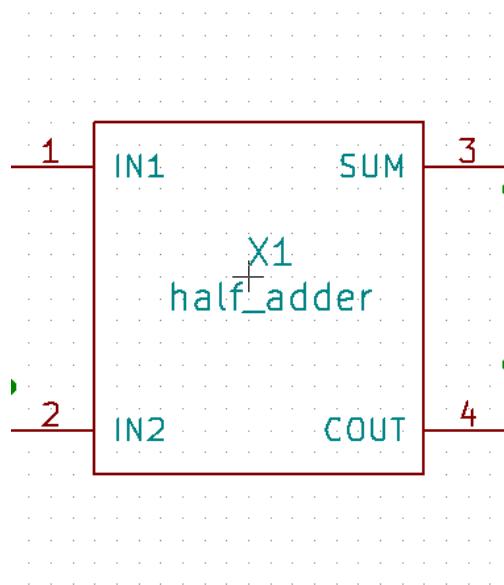

Figure 8.8: Half-Adder Subcircuit Block
- Update and save using `Update Current component` from the top toolbar as shown in Fig. 8.8.